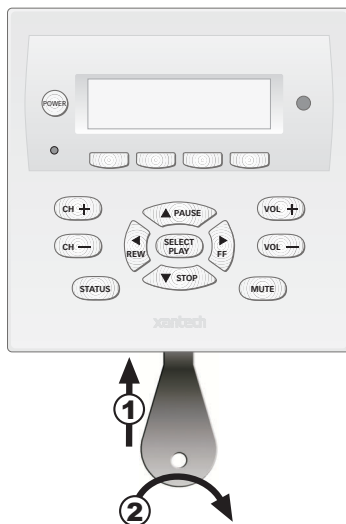

Figure 6 – Removing the MRC44 Keypad from the wall
1. Insert the MRC44 keypad removal tool into the slot at the bottom of the keypad, as shown in **Figure 6**, being sure that the tool is inserted so that the “insert to here” line slides under the Keypad. This will reduce the risk of damage to the Keypad or the wall.